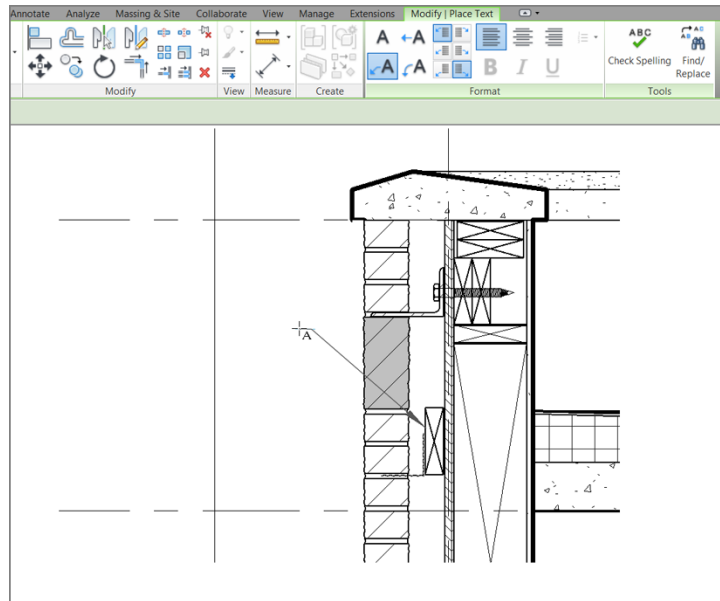

FIGURE 12.52: Adding the leadered text
2. The next three steps use the Format panel of the Modify | Place Text tab (see Figure 12.52). Click the Align Right button.
3. Again, on the Modify | Place Text tab, click the Two Segments leader (the uppercase A in the lower-left corner of the Format panel; see Figure 12.52).
5. In the section, pick the first point of the leader at the top of the brick tie detail (shown in Figure 12.52).
6. Pick the second point above and to the left of the first point (shown in Figure 12.52).
7. Pick the third point for the second segment (as shown in Figure 12.52).